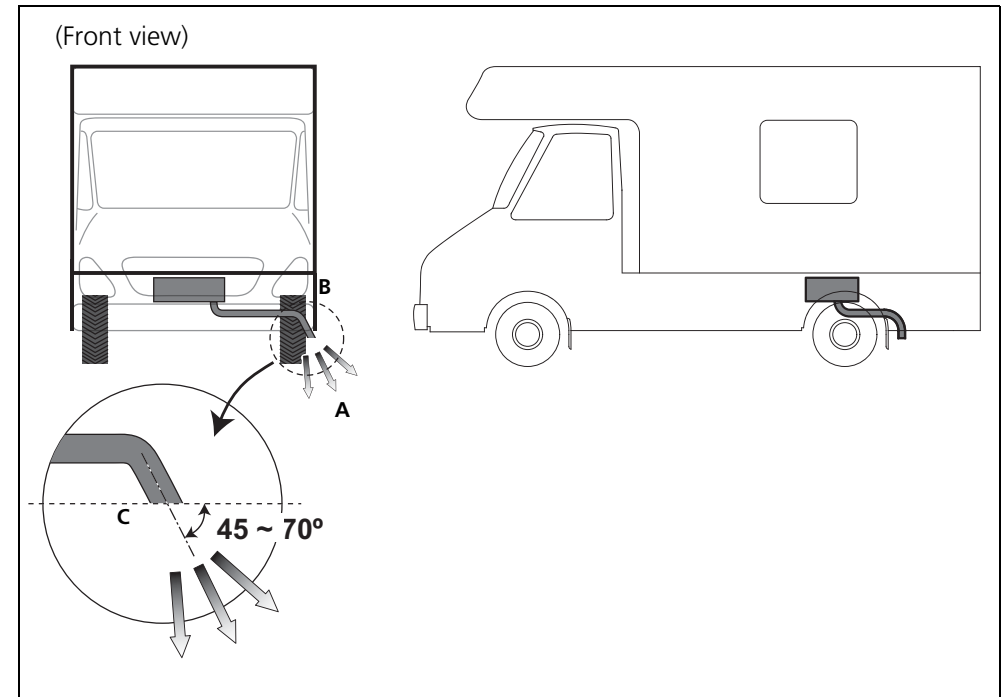

Fig. 42: Location and direction of exhaust
- The line must not point to the front of the vehicle. See Fig. 42.
- Avoid the formation of an exhaust accumulation under the vehicle. See Fig. 42.
If the exhaust pipe end is other than as shown, it will pose a fire risk. See Fig. 42.